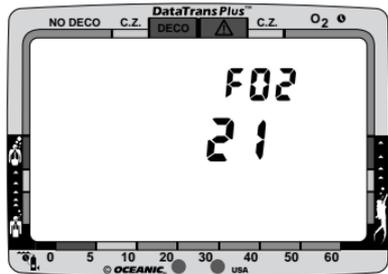

Fig. 57 - Setting FO2
3. Press and hold the Advance/Left button, or press it repeatedly, until the proper value of FO2 appears (Fig. 57). The percentage displayed will advance 1 (%) per second from 21 to 50 (%), then display 'Air' again.